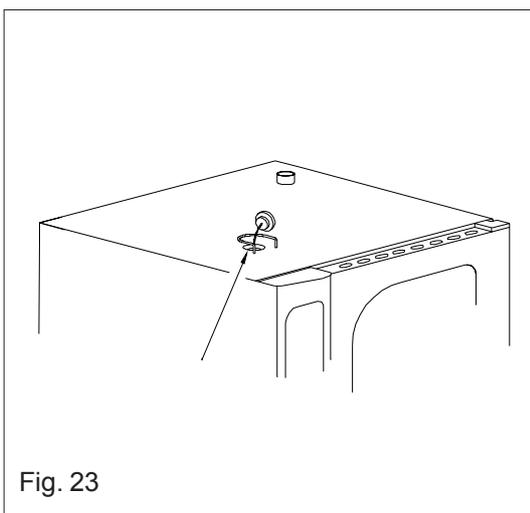

Fig. 23
- FOR OVENS 6GN 1/1 AND 10GN 1/1: Introduce about 4 litres of vinegar into the breather pipe (see Fig. 23).